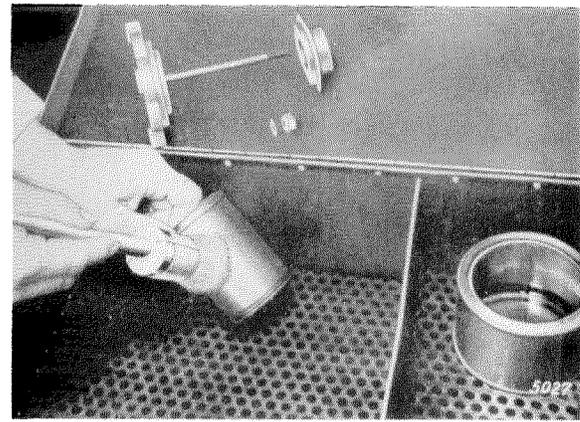

Figure 18-9/6
**Note:** In order to clean the oil filter the upper part of the oil filter housing (7) is not removed from the engine (Figure 18-9/5).
1. Unscrew the hexagon screw (16) and remove the filter bowl (1) from the upper part of the oil filter housing (7). **Caution!** Hold the filter bowl upright, because the bowl is filled with oil (see Figure 18-9/5).
2. Unscrew the nut (5), then take out the outlet ring (4) and the metal filter element (3) (Figure 18-9/5).
1. Clean the metal filter element (wire coil element) in the parts cleaning equipment. If such an equipment is not available, the filter element must be cleaned in Tri lye. To do this, place the element into the Tri lye for some time to soften and then clean with a brush (see Figure 18-9/6).
2. Also clean thoroughly the filter bowl and the outlet ring of the bowl-type oil filter and/or the inside of the filter housing of the horizontally arranged oil filter. Furthermore, on the horizontally arranged oil filters check with wire whether the 2 mm hole in the filter housing is open (see Figure 18-9/3).